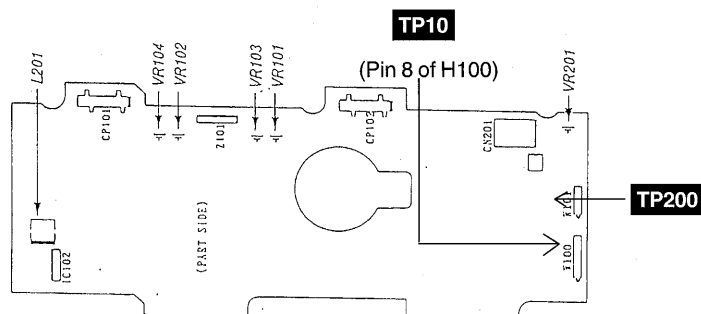

Fig. 5
6. Short-circuit between **TP200** and **TP10** ( Fig. 5).